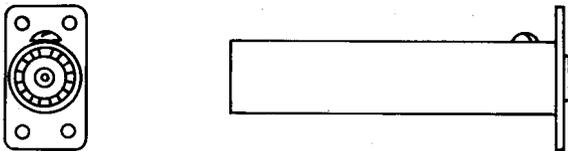

Fig. 13—563A Jack
2.13 563A: This coaxial-type jack (Fig. 13) is designed to be used with the 51A pad and a 358A or similar plug and is tested at 2000 volts ac. This jack is equipped with a center conductor which is designed for a soldered wire connection. The outer conductor is electrically common with the mounting plates. The mounting hardware is not furnished, but must be ordered separately. The 563A jack is used with the L4 Coaxial System.